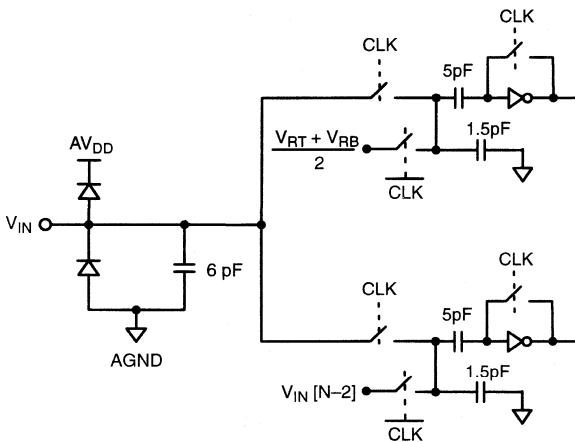

Figure 4. Equivalent Input Circuit
- See V_{IN} input equivalent circuit (Figure 4). Switched capacitor analog input requires driver with low output resistance.